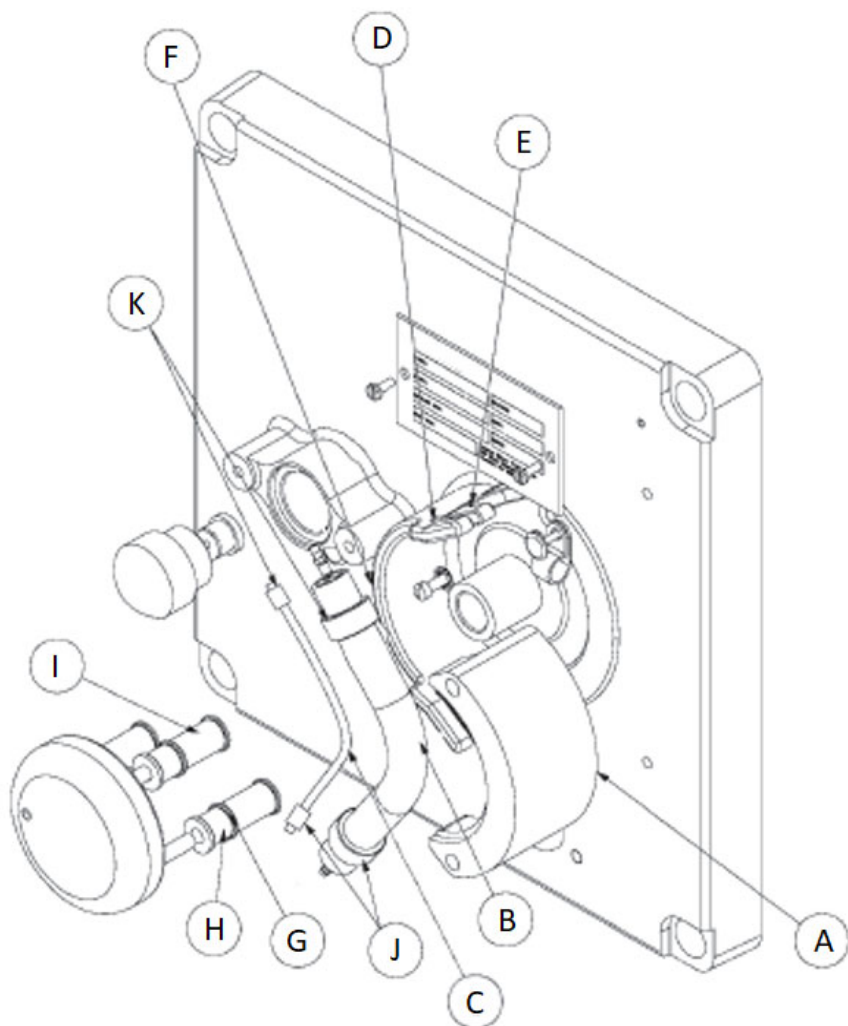

Fig. 1 Installation of tube units
- **Installation of tube units (refer to Figure 1):**
- 1 Remove the occlusion ring (A).
- 3 Both reagent tube units (C) fit into the small groove (D) on the tube retainer (F), as well as into the small groove (H) on the rollers (G).